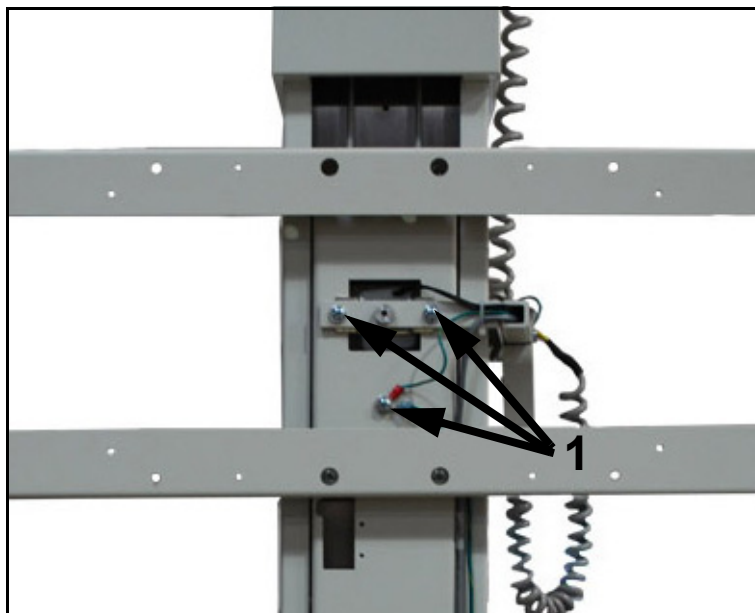

Figure 5-13. Moved Cable Mounting Bracket
- 12 Re-tighten the bolts on the cable routing bracket (1 in Figure 5-13) after it is moved to the right.